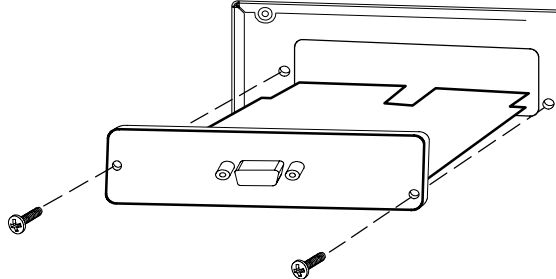

Figure 22. Removing the Single-Port Module
1. Remove the single-port module on the UPS rear panel. Retain the screws (see Figure 22).